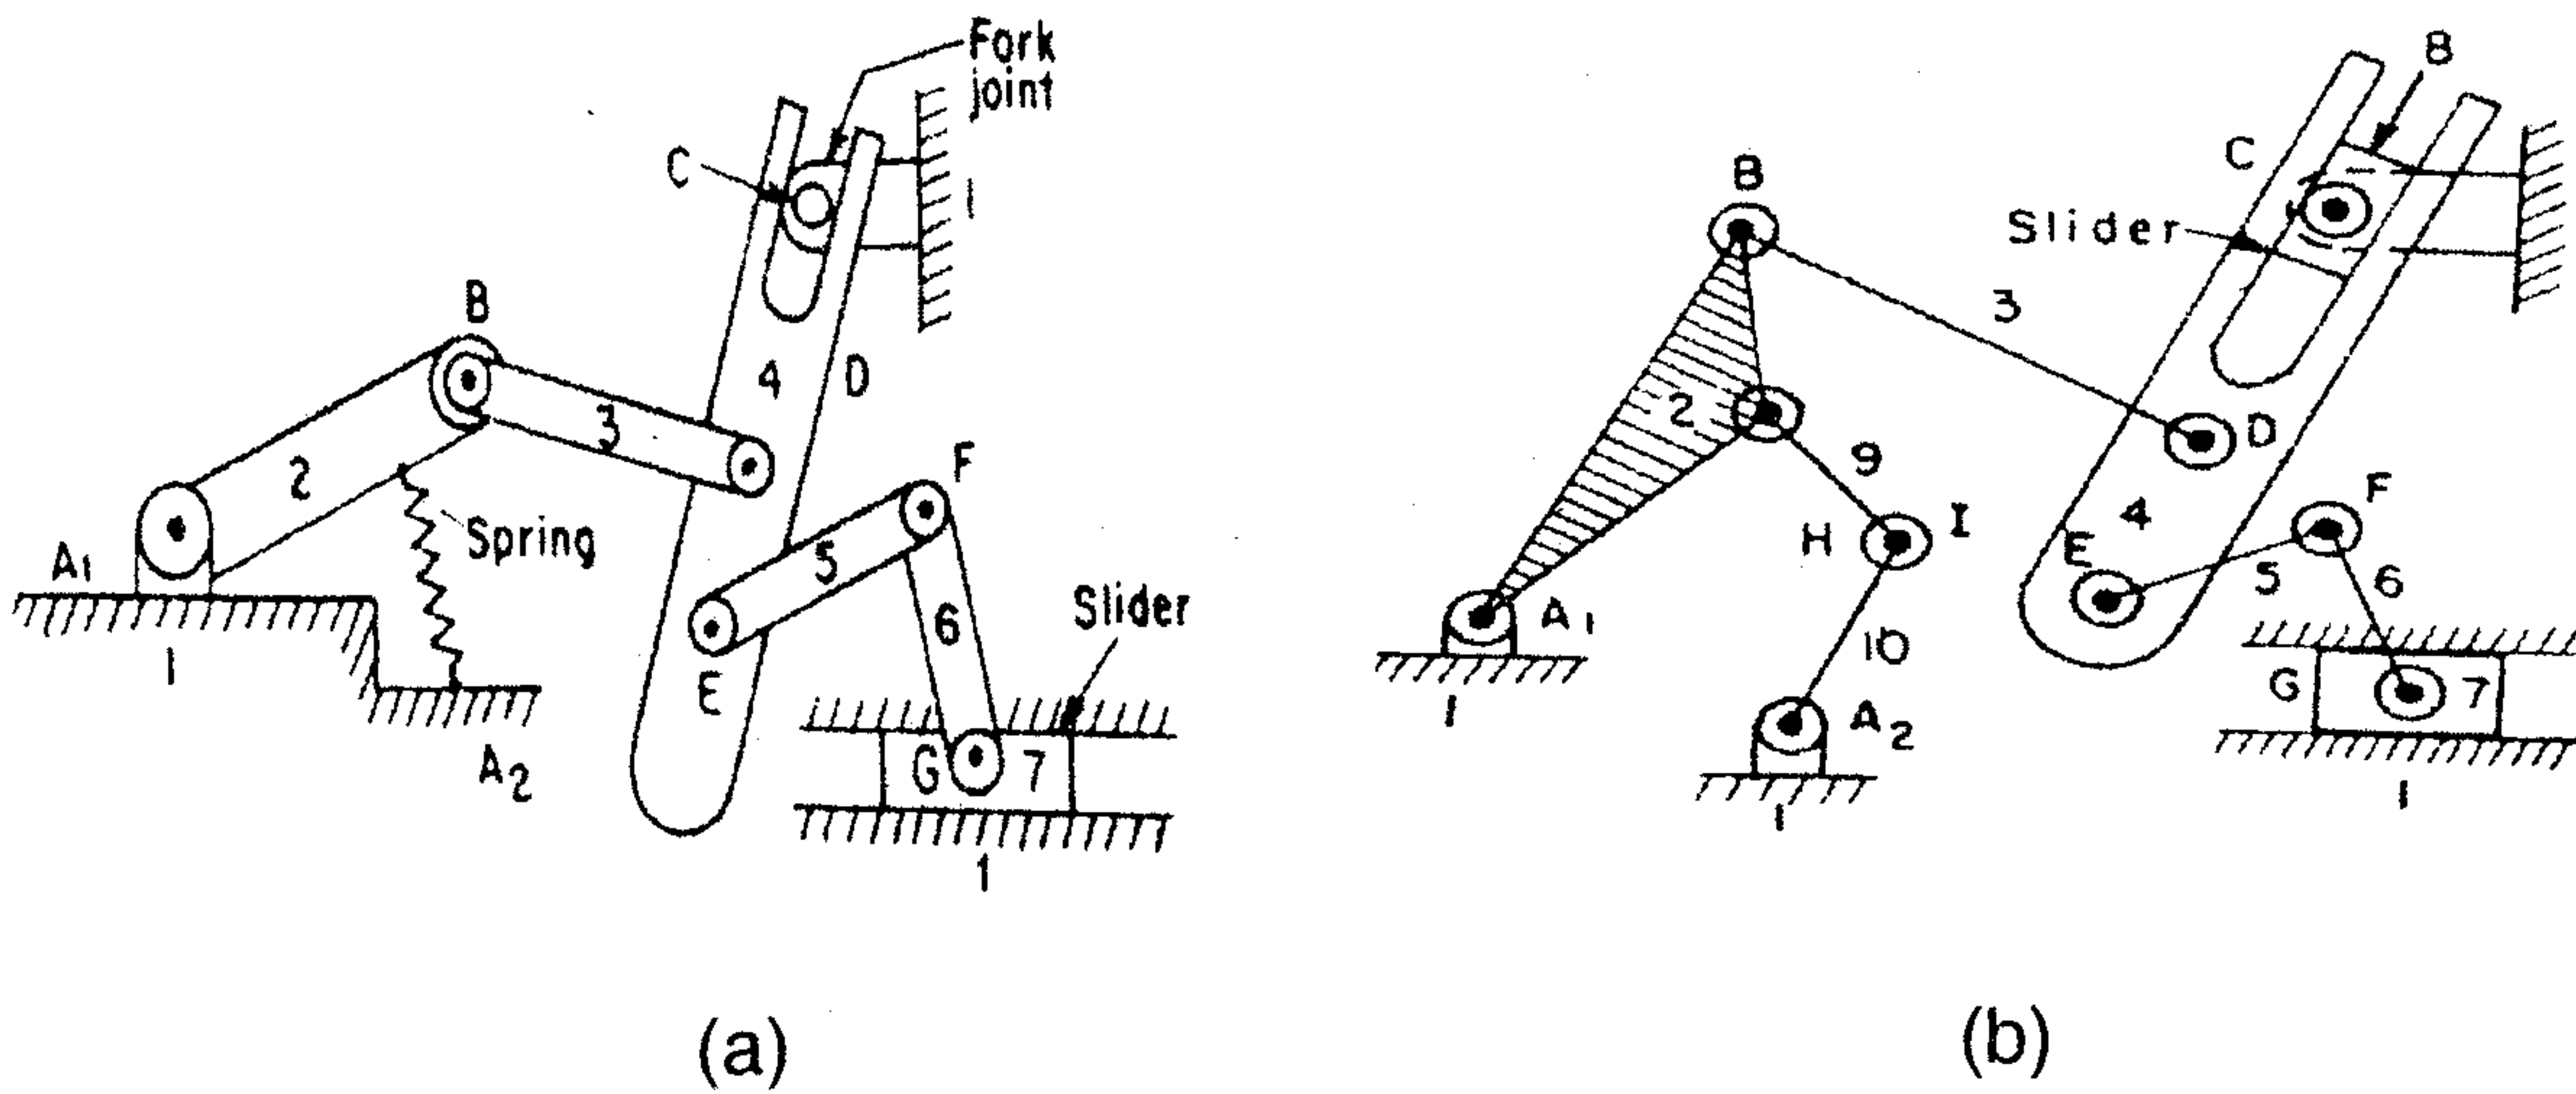

Figure 1 Mechanisms
12. Determine the degrees of freedom of the following mechanisms shown in Figure. 1 (a) and (b).